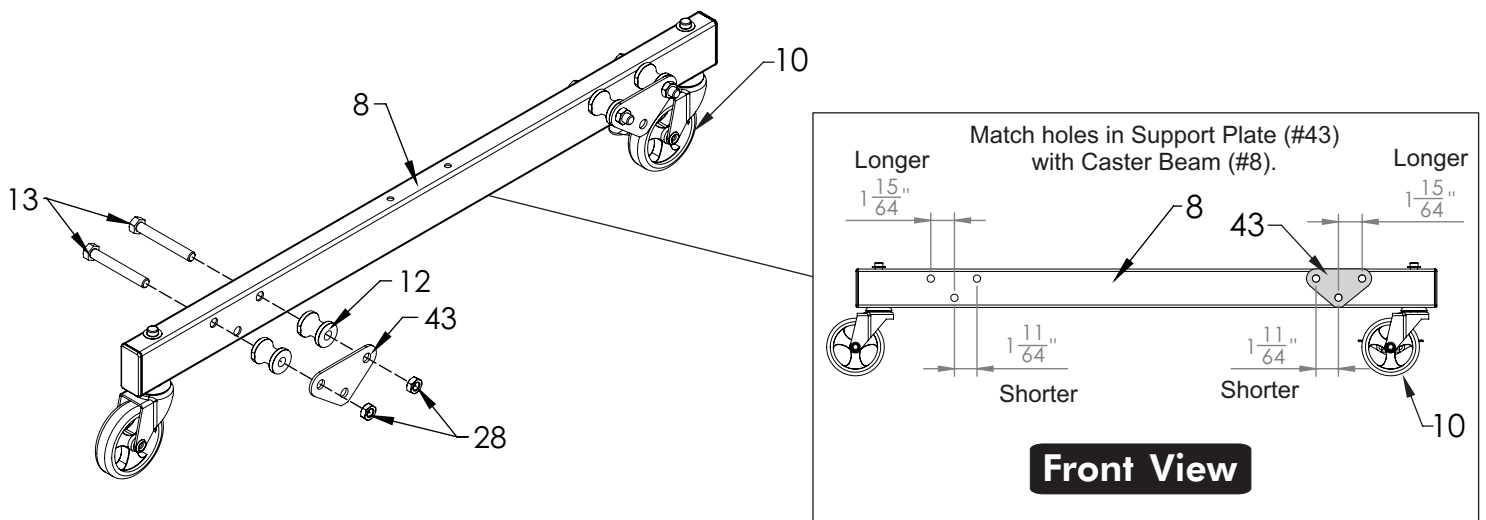

Figure 2
2. Lay Support Plates (#43) on Caster Beam (#8) to line up holes, the distance between middle holes to side holes is different, see **Front View** of **Figure 2**. Attach Stop Spools (#12) and Support Plates (#43) to side of Caster Beam without logo with Bolts (#13) and Nuts (#28) but **do not** tighten completely. See **Figure 2**. Repeat step for second Caster Beam.